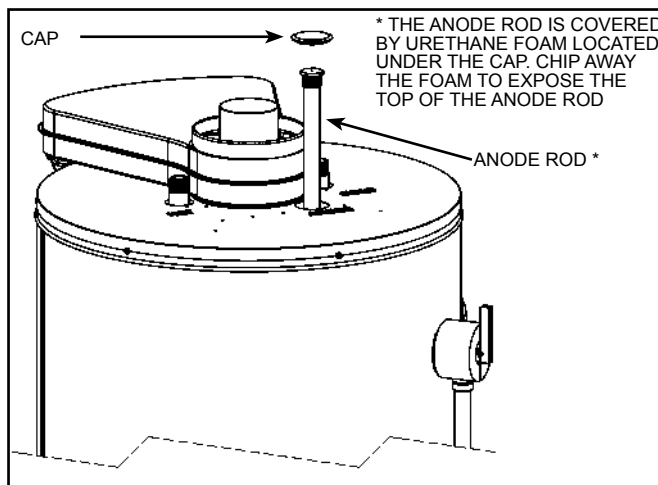
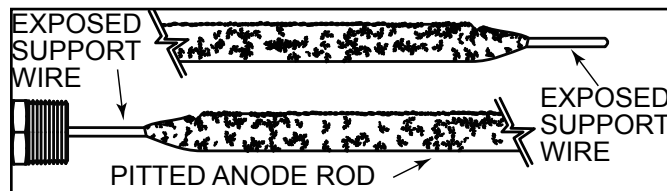

Figure 41
Figure 42
Artificially softened water is exceedingly corrosive because the process substitutes sodium ions for magnesium and calcium ions. The use of a water softener may decrease the life of the water heater tank. The anode rod (see Figure 41) should be inspected after a maximum of three years and annually thereafter until the condition of the anode rod dictates its replacement (see Figure 42).
5. Remove and retain the anode cap on top of the heater and remove and retain just enough insulation so you can access to the anode head (see Figure 41). Keep in a safe place for reinstallation later.
6. Remove the anode rod by using a ratchet and a 1-1/16" socket turning counter-clockwise (see Figure 41).
2. Place the anode rod in the spud (top of the tank) (see Figure 41) and turn clockwise until the threads are hand tight. Using a ratchet and 1-1/16" socket tighten down water tight.